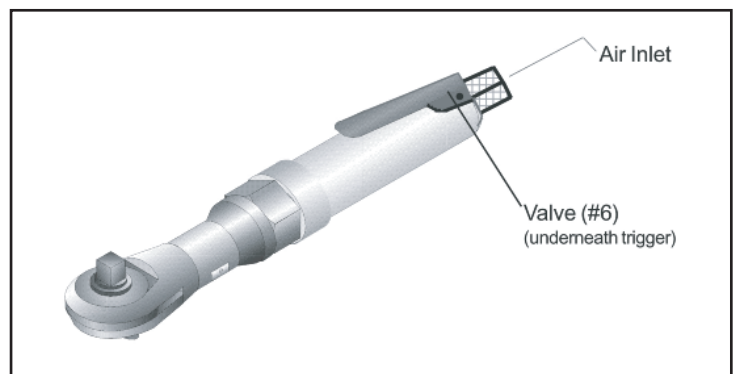

Figure 6- Lubrication Points
- '! Apply a few drops of oil to the Valve (#6), location shown in Figure 6. Work the trigger a few times to lubricate.